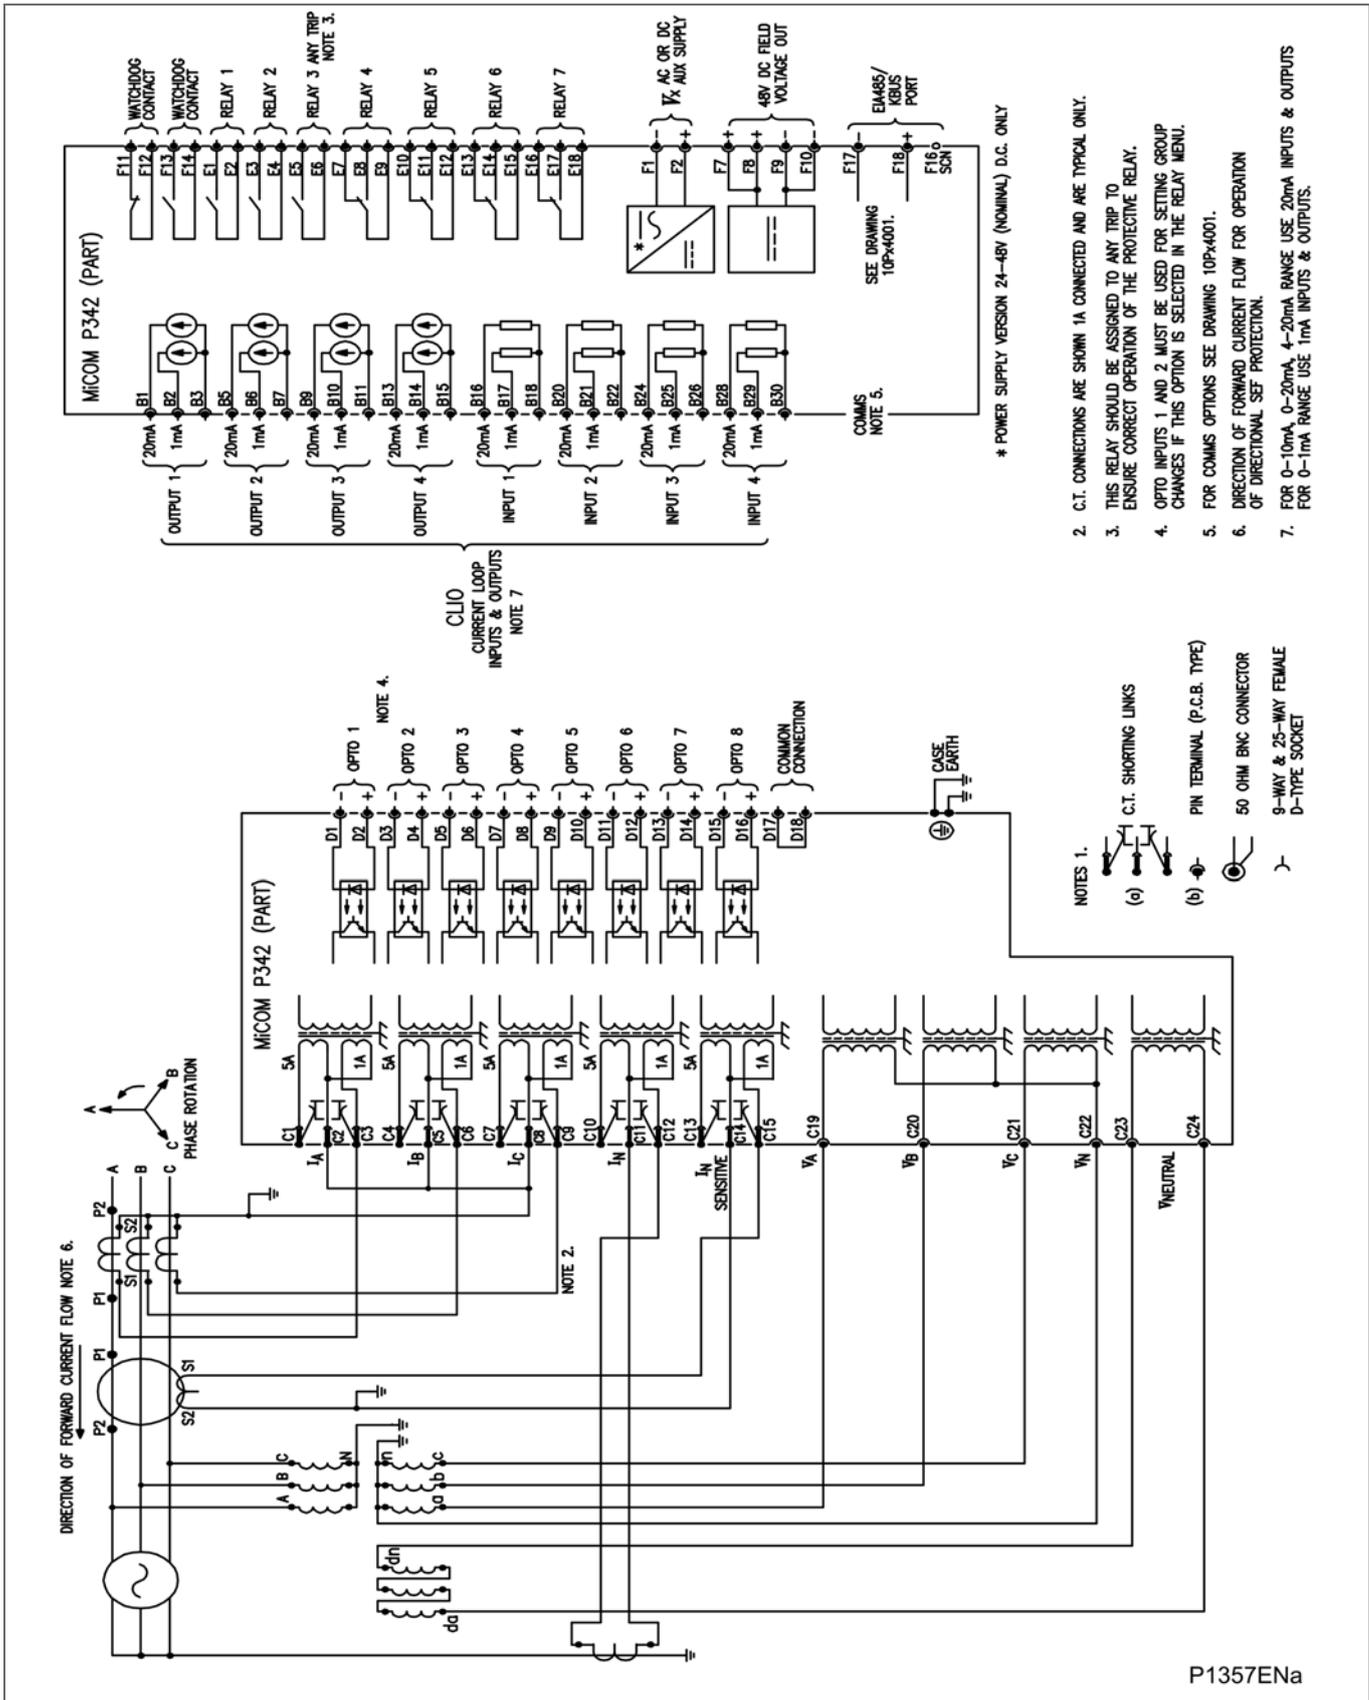

Figure 43 - P342 (40TE) for small generator (8 I/P & 7 O/P & CLIO)
- Figure 43 - P342 (40TE) for small generator (8 I/P & 7 O/P & CLIO)